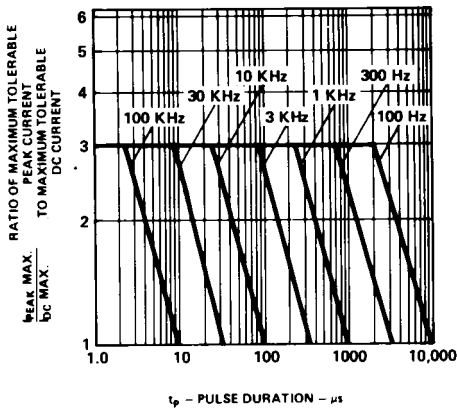

Figure 2. Maximum Tolerable Peak Current vs. Pulse Duration. (I_{DC} MAX as per MAX Ratings).
1. See Figure 2 to establish pulsed operating conditions.